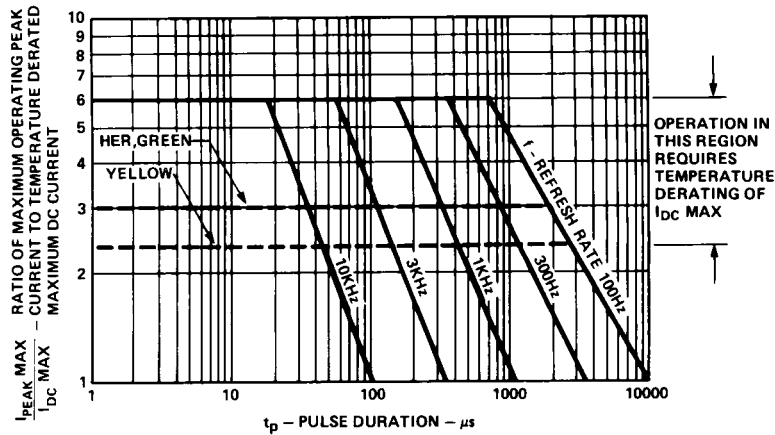

Figure 6. Maximum Allowed Peak Current vs. Pulse Duration.
5. See Figure 6 to establish pulsed operation. Maximum pulse width is 2 mS.